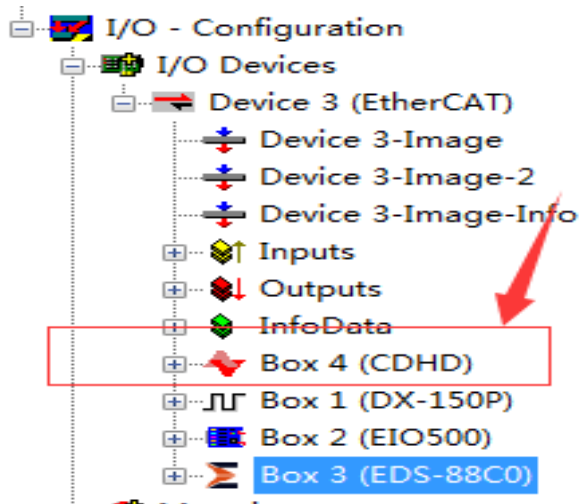

**Figure 4.1 — Limit diagram**
The limit diagram is shown in Figure 4-1.
**Note:** the limit sensor is active low, and the signal is often closed, and it continuously outputs 0V signal when it is not triggered. The limit diagram is shown in Figure 4-1.
**Note: the limit sensor is active low, and the signal is often closed, and it continuously outputs 0V signal when it is not triggered. The limit diagram is shown in Figure 4-1.**